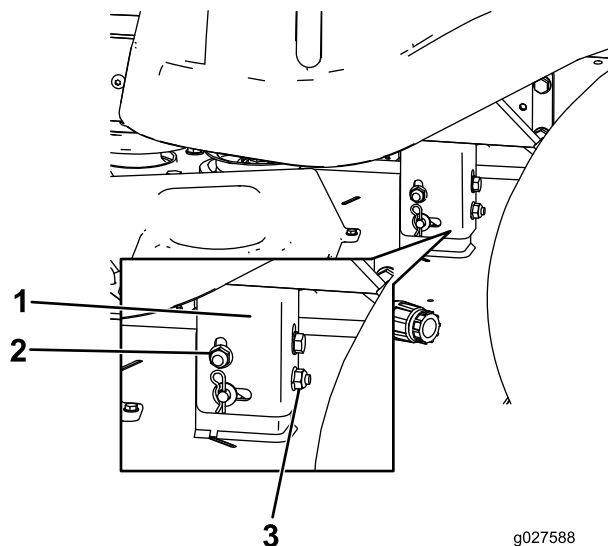

Figure 62
8. Raise or lower the left side of the mower deck by rotating the rear nut. (Figure 62).